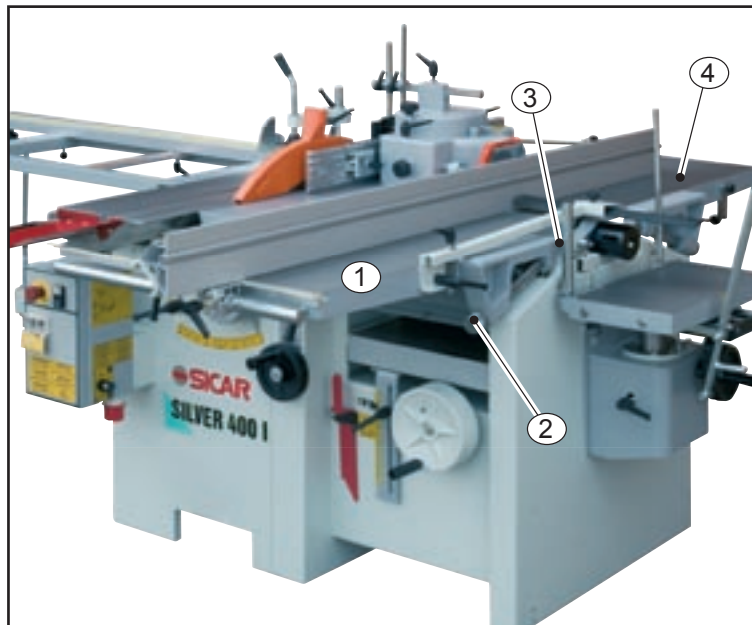

Fig. 6.2.1A
6.2.1 - REGOLAZIONE PIANI PIALLA FILO FIG. 6.2.1A, 6.2.1B, 6.2.1C, 6.2.1D
6.2.2 - PRATICHE DI LAVORO SICURO: PIALLA FILO FIG. 6.2.1A, 6.2.1B, 6.2.1C, 6.2.1D
PIALLATURA DI SUPERFICI E BORDI FINO A 75 MM. DI SPESSORE FIG. 6.2.1A, 6.2.1B, 6.2.1C